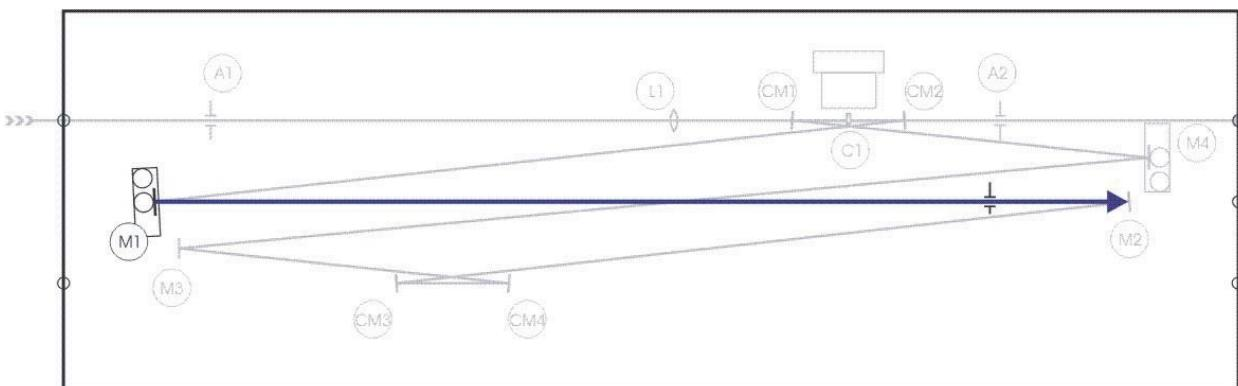

Figure 5.11.: Align M1 to center green pump spot on M2. Use plug aperture position A5.
- Place the plug aperture at position A5. Adjust M1 to center the spot on M2 (Fig. 5.11).